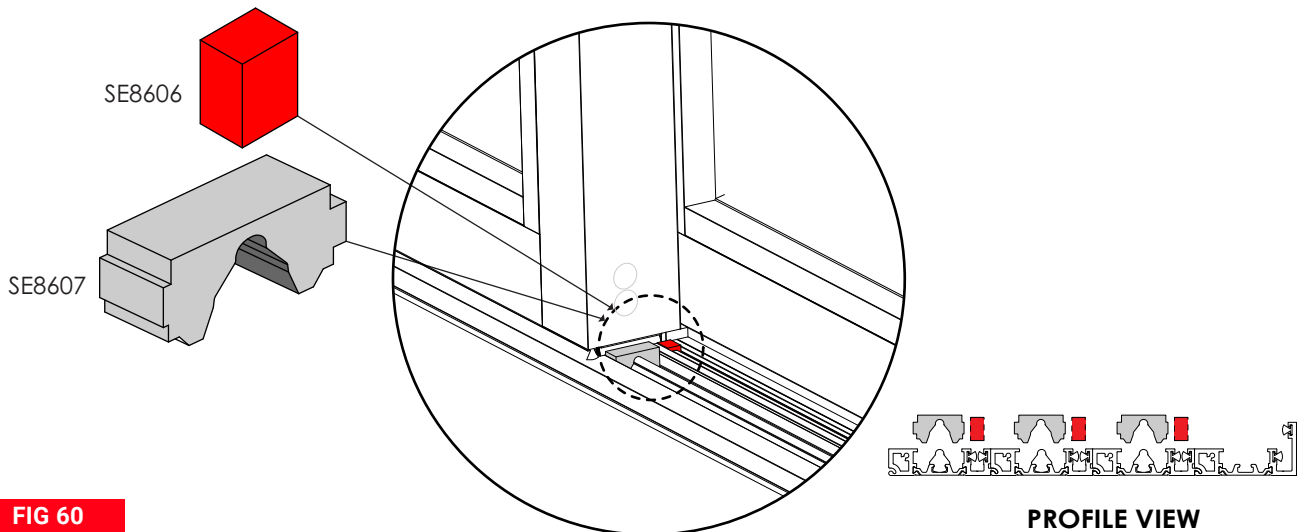

FIG 60
- With the door in the closed and locked position, apply the Angel Track Dust Plugs over the Angel Track at the sill end of each Intermediate and Fixed Panel. Use SE8606 and SE8607. **[FIG 60]**